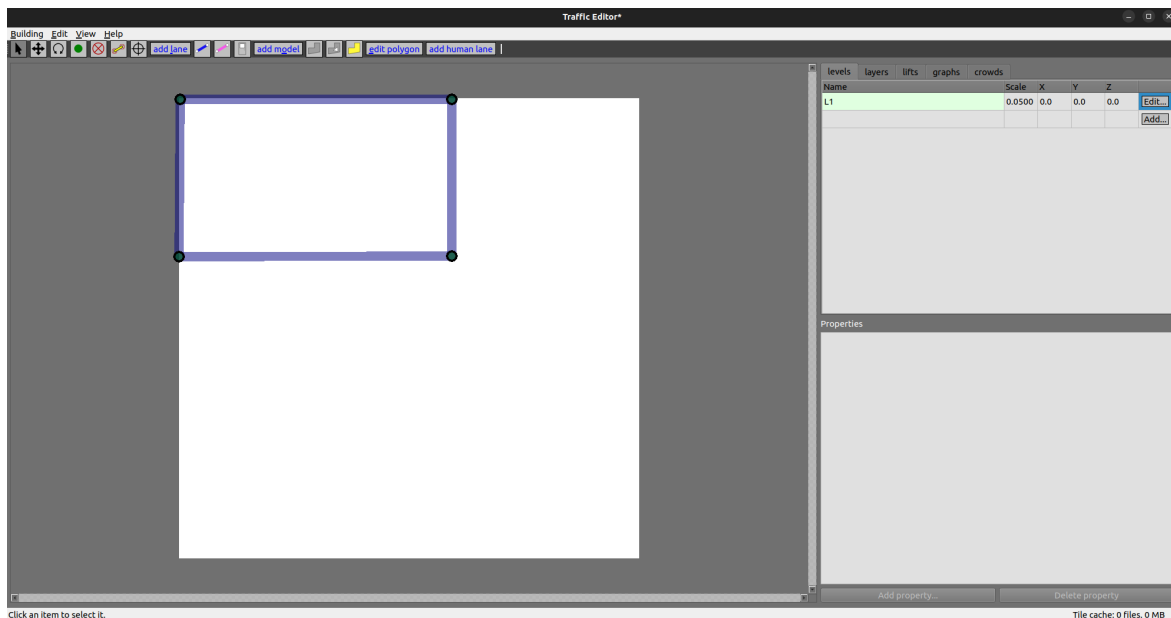

Figure 4: Adding Walls
- Press the wall button (marked as a blue line) or press 'W' to use the add wall tool. The Wall tool will add vertices for you and join them with walls (Figure 4). You can also set the vertices (green dot or press 'V') before the walls for more control over the layout. Vertices are key for the level layout as they can become walls, doors, floors, measurements, lanes, and more.